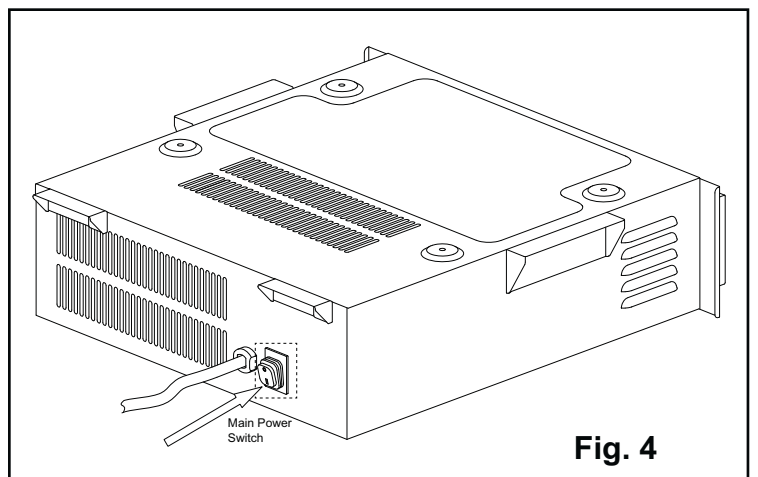

Fig. 4
3. The Heater has a main power switch on the back of the heater enclosure. Ensure that the main power switch is in on the ON position as shown in Fig. 4.